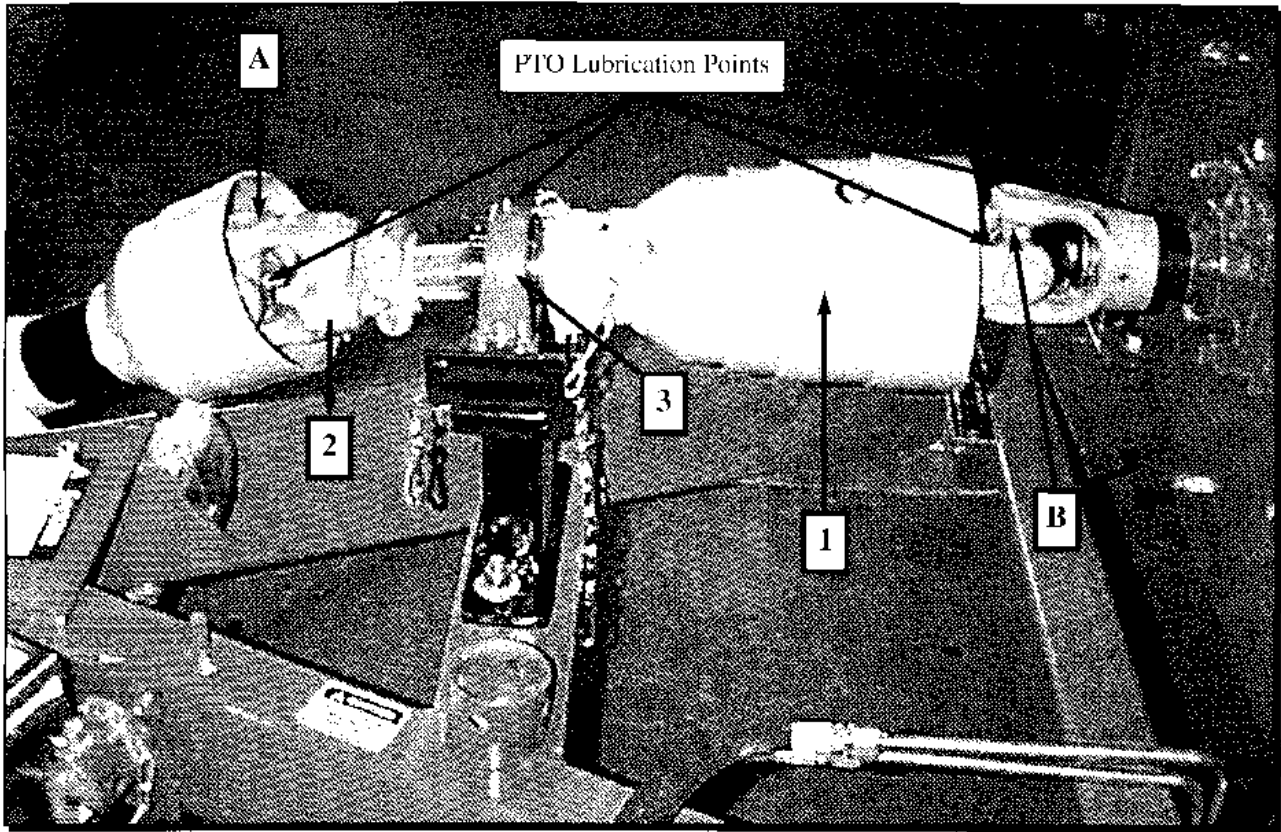

Figure 4 PTO Installation & Lubrication
Ensure that the U-joint cross on the front PTO shaft (A) is in line with the U-joint cross on the secondary PTO shaft (B). See Figure 4.
Maintaining proper lubrication of the Bale Pro 6600 is crucial for trouble free operation. Figures 4, 5 and 6 show 12 points which require regular greasing. Below is a list of the lubrication points and the frequency of greasing of these points.